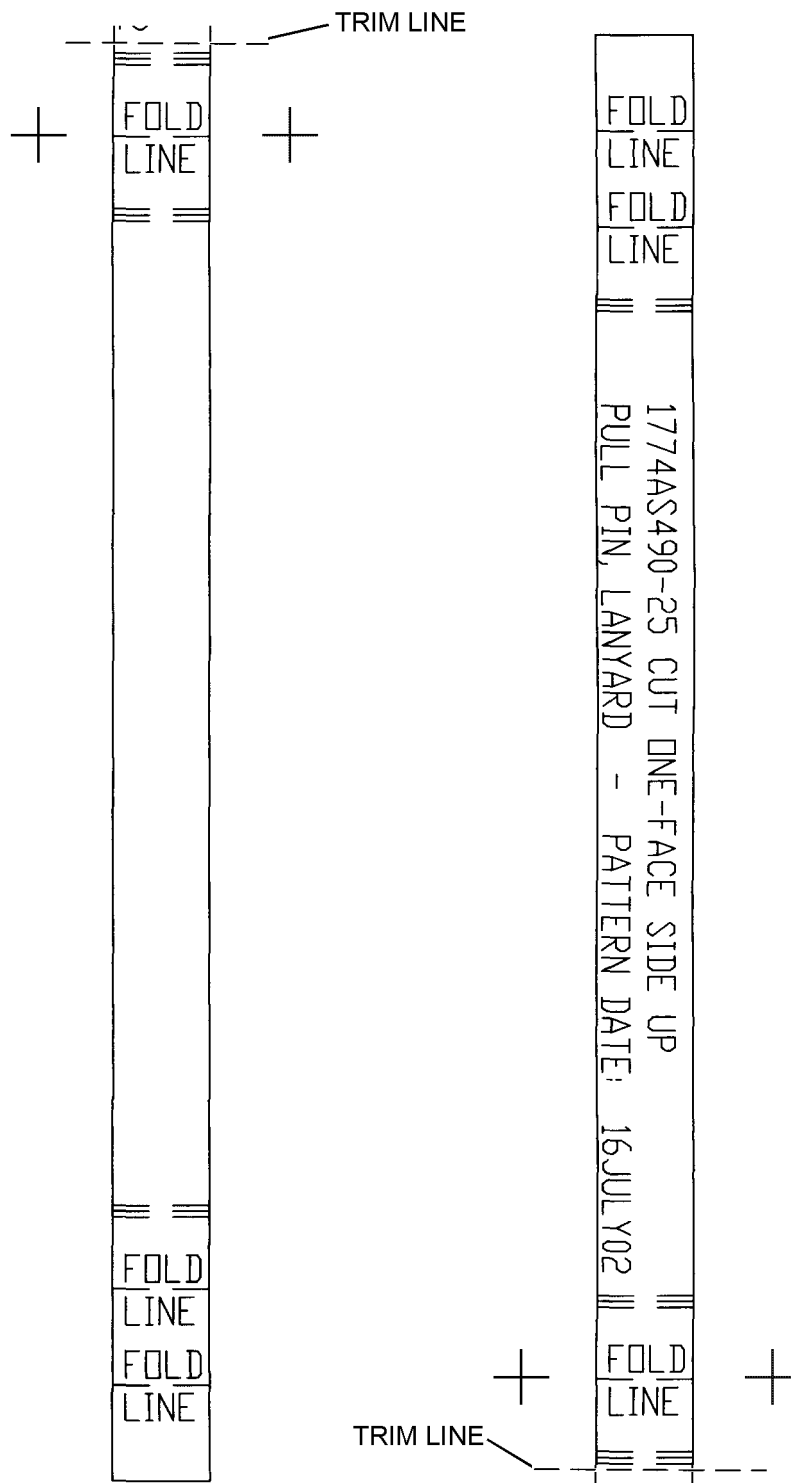

Figure 6-34X1. Pull Pin Lanyard Pattern
15. If needed, cut 14 1/2-inch length of 1/2 inch wide tape (figure 6-34X1). Slide tape through ring of pull pin and fold in half onto itself. Fold free end 3/8 inch 2 times, sew in place using 3 rows of stitches side by side centered.